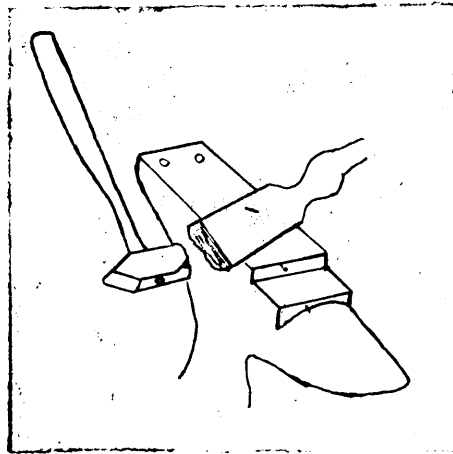
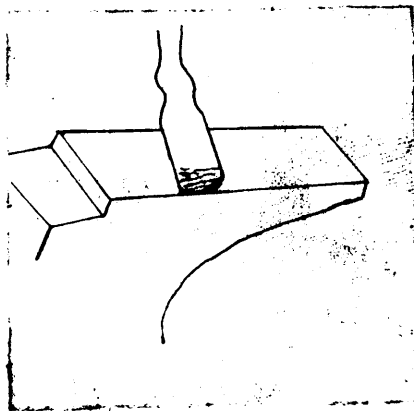

Figure 1.
Figure 2.
3. Place the heated end over the edge of anvil (Figure 1) and hammer edge back until it is straight across. In case the cutting edge is badly worn or is very irregular, it is better to strike several blows on the edge (Figure 1) then move tool back on anvil and hammer to shape the end, (Figure 2). In case the cutting edge is very much rounded the edge should be marked off square and the uneven edge cut off.
4. As shown in Figure 2, place hoe on edge of the anvil with the bevel up, and smooth out the bevel. Blows should be somewhat alternated on the bevel and edge. You should attempt to shape the bevel very well in order that very little grinding will be needed. In shaping the bevel always keep end on edge of the anvil.